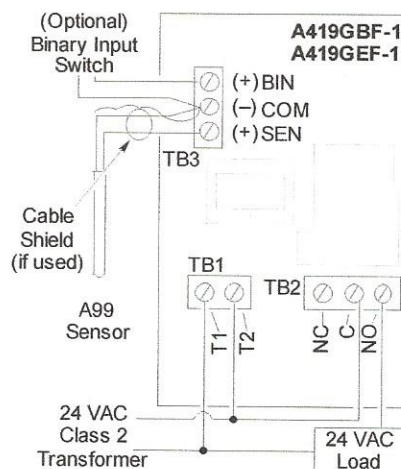
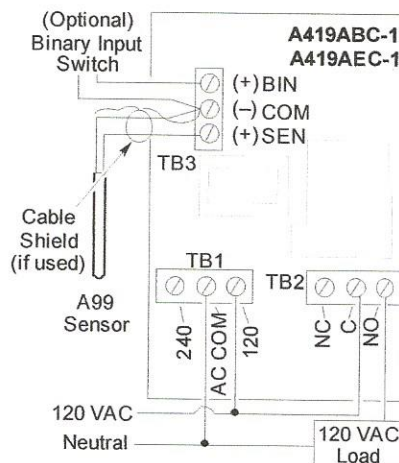
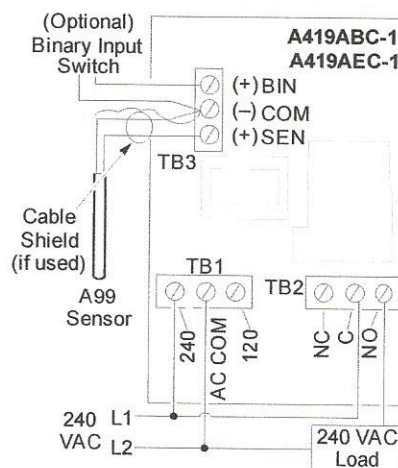

Figure 9: Wiring the 24 VAC A419 Control
Figure 10: Wiring the 120 VAC A419 Control
Figure 11: Wiring the 240 VAC A419 Control
Refer to Figure 9, Figure 10, and Figure 11 for typical examples of wiring an A419 control to the controlled equipment.
A99 temperature sensors are not polarity sensitive. Wire the leads to (+) **SEN** and (-) **COM** on the sensor terminal block (TB3). See Figure 9, Figure 10, and Figure 11.
If the **Temperature Offset** function is used, wire a switch (such as a switching time clock) between the binary input terminal (**BIN**) and the common terminal (**COM**). See Figure 9, Figure 10, and Figure 11 for terminal strip location.
- b. Use a reliable AC voltmeter to check the voltage between the **COM** and **120V** or **240V** terminals on line voltage models and the two 24V terminals on low-voltage models. Refer to Figure 9, Figure 10, and Figure 11.